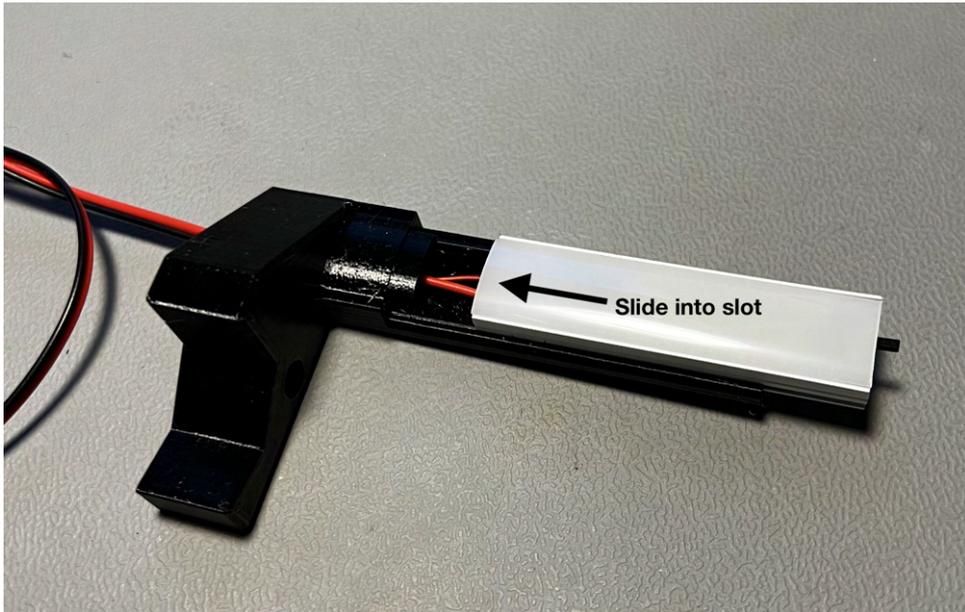

Figure 14: How to slide in the LED light into the 3D printed holder.
1. Start by sliding the wiring through the slot provided. Next, insert the LED light into the 3D printed holder, as illustrated in Figure 14. Slide it all the way in until it is flush with the end.